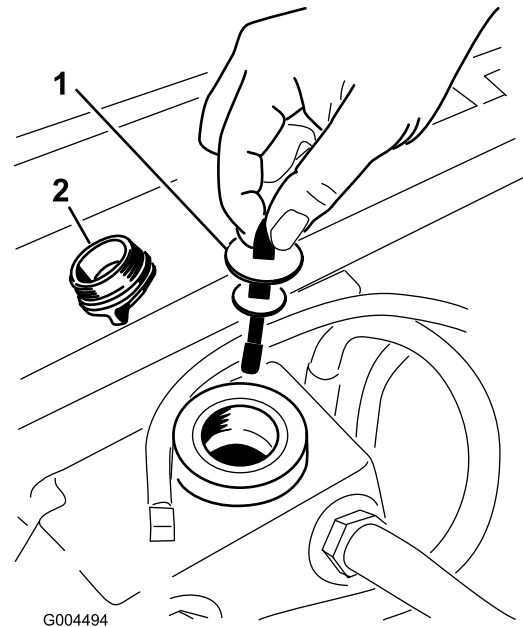

Figure 92
5. Remove the hydraulic fill cap from the filler neck (Figure 92).
6. Remove the dipstick and wipe it with a clean rag (Figure 92).
7. Place the dipstick into the filler neck; then remove it and check the level of fluid (Figure 92).